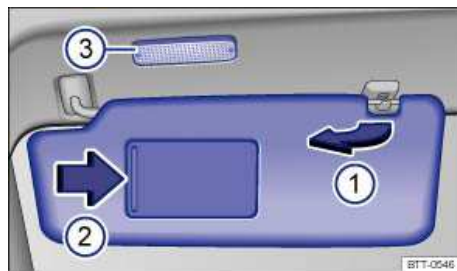

Fig. 74 In the headliner: Sun visor.
- Lift it out of the retaining clip ⇒ fig. 74 \(1\) and swivel it over toward the door.